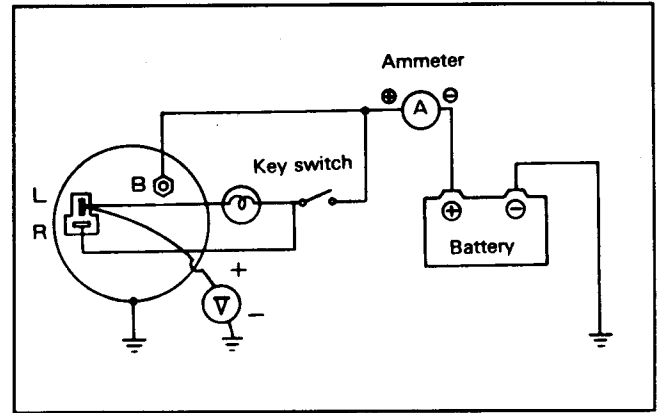

Figure 23
1. Install an ammeter between the positive (+) terminal of the battery and terminal "B" of the alternator (Fig. 23).